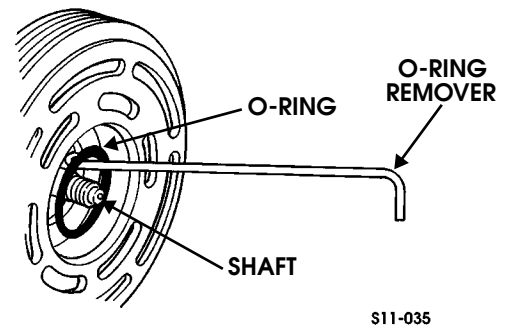

Figure 11-66: O-Ring
- Using O-ring remover, remove and discard seal seat O-ring from the compressor neck (Figure 11-66).